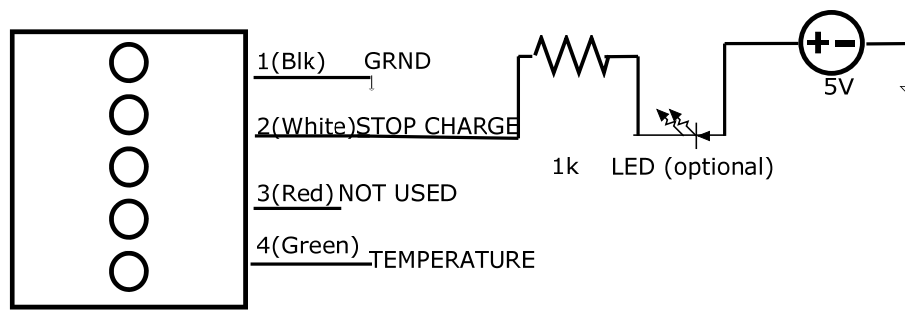

Fig. 6 – Typical connection to the monitor cable. (Users to verify values based on their circuit design)
3. The output of Pin 2 (wrt Pin 1, GRND) is normally close to 0V when the voltage management circuit is inactive. However, in order to use the signal, the user needs to connect a pull-up resistor (typically 1k Ω) to Pin 2 and a 5V supply. In this configuration, the voltage at Pin 2 will be ~ 5V when the circuit is not active. When a cell in the module goes into over voltage condition (>2.7V), the voltage management circuit becomes active and tries to discharge the cell to bring its voltage below the threshold. At this time, the output of Pin 2 goes low. At this point, the circuit is setup to sink 5mA which can be used as a signal to the system electronics to stop charging in order to allow the cell(s) to discharge down to normal voltage levels (< 2.73V). Once this happens, the pin output goes high again and can be used as a signal to resume charging. Figure 6 shows a typical connection to use this system.